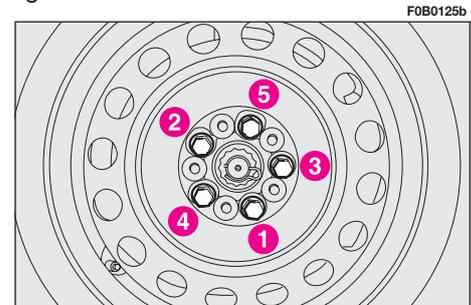

fig. 10
22) Fasten bolts completely, working in a criss-cross fashion as shown in fig. 10.